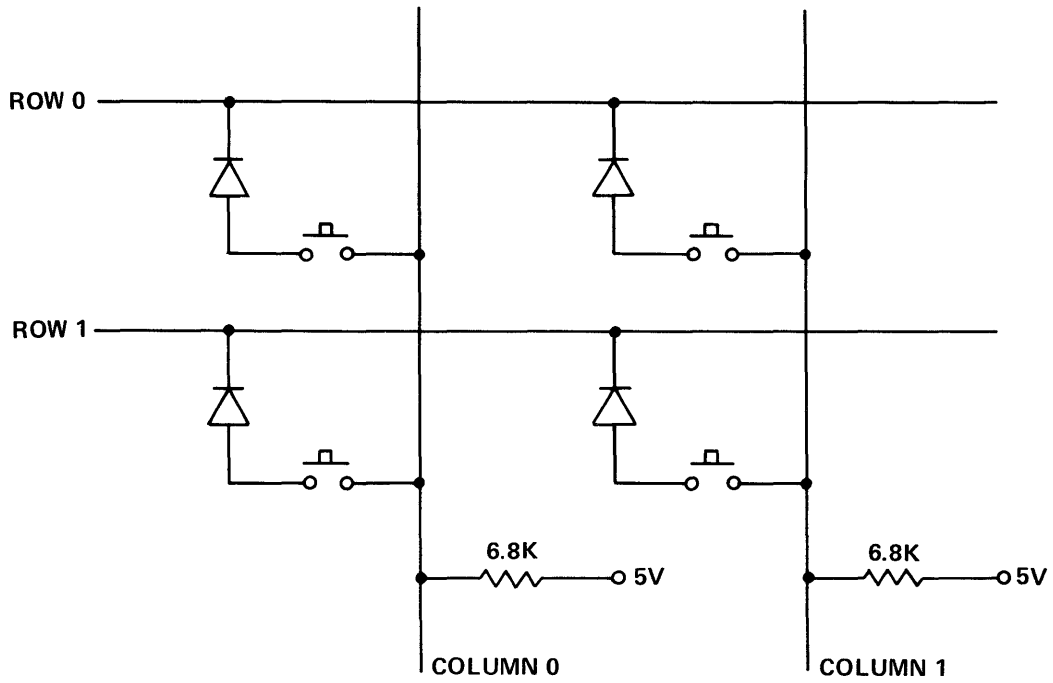

Figure 4-16a Keyboard Matrix Simplified Diagram (Model 820 KSR)
4.4.2.1 KSR Keyboard. Current flow continues from the keyswitch through a diode (connected in series with every switch), and into the enabled row (See Figure 4-16a). While current is flowing, the column output will be low. The diode prevents current flow from an unenabled row to an enabled row when two switches on the same column are actuated.